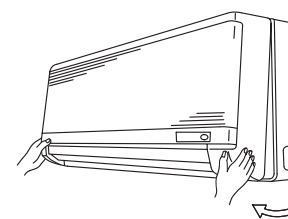

Fig. 3-121
- (6) Remove the grille. (Fig. 3-121)